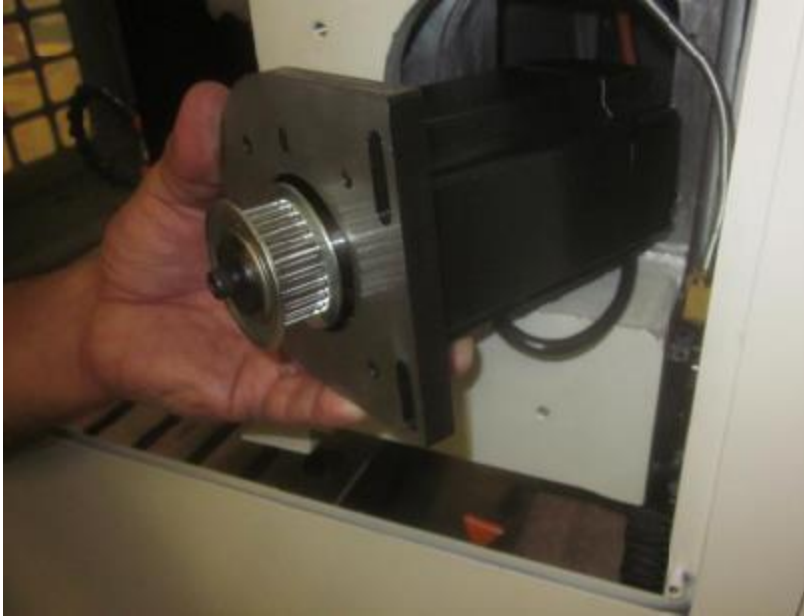

Figure 6.1.1b
7. Carefully maneuver the motor out from the machine casting exposing the cable connections. See figure 6.1.1b.